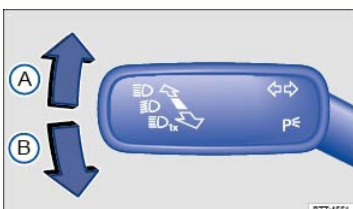

Fig. 79 To the left of the steering wheel: Turn signal and high beam lever.
- Move the turn signal and high beam lever ⇒ Fig. 79 to position: